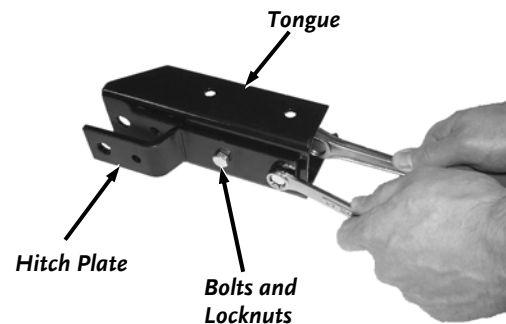

Figure 42
1. Fasten the Hitch Plate to the Tongue with two 5/16"-18 Bolts and Nylon Locknuts using two 1/2" wrenches (Figure 42).